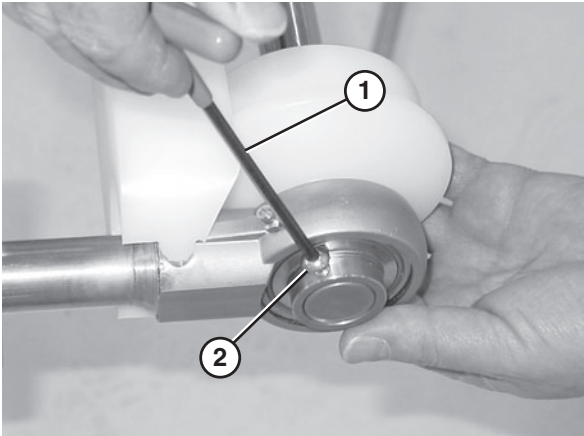

Figure 79
9. Use a hex wrench (**Figure 79, item 1**) to tighten the bearing shaft fasteners (**Figure 79, item 2**).